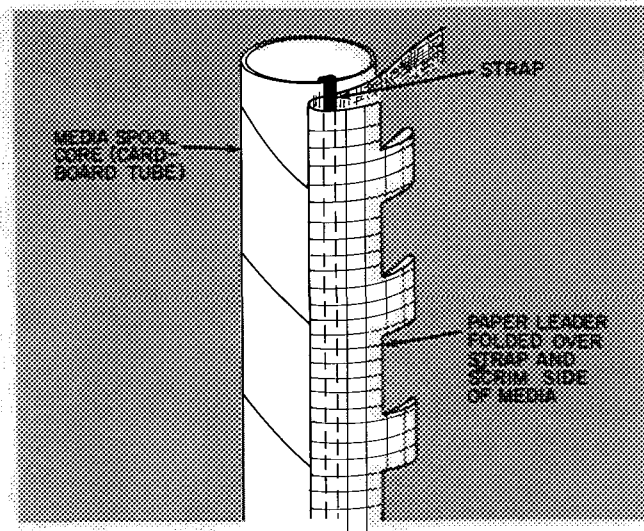

Fig. 8 — Paper Leader Installed on Take-Up Core (Step 9)
9. Insert leader behind strap on take-up core (cardboard tube) and fold it over itself as shown in Fig. 8.
12. Insert leader behind strap on take-up core (Fig. 8). Fold leader over itself. Note rotation of take-up spool (Fig. 2).